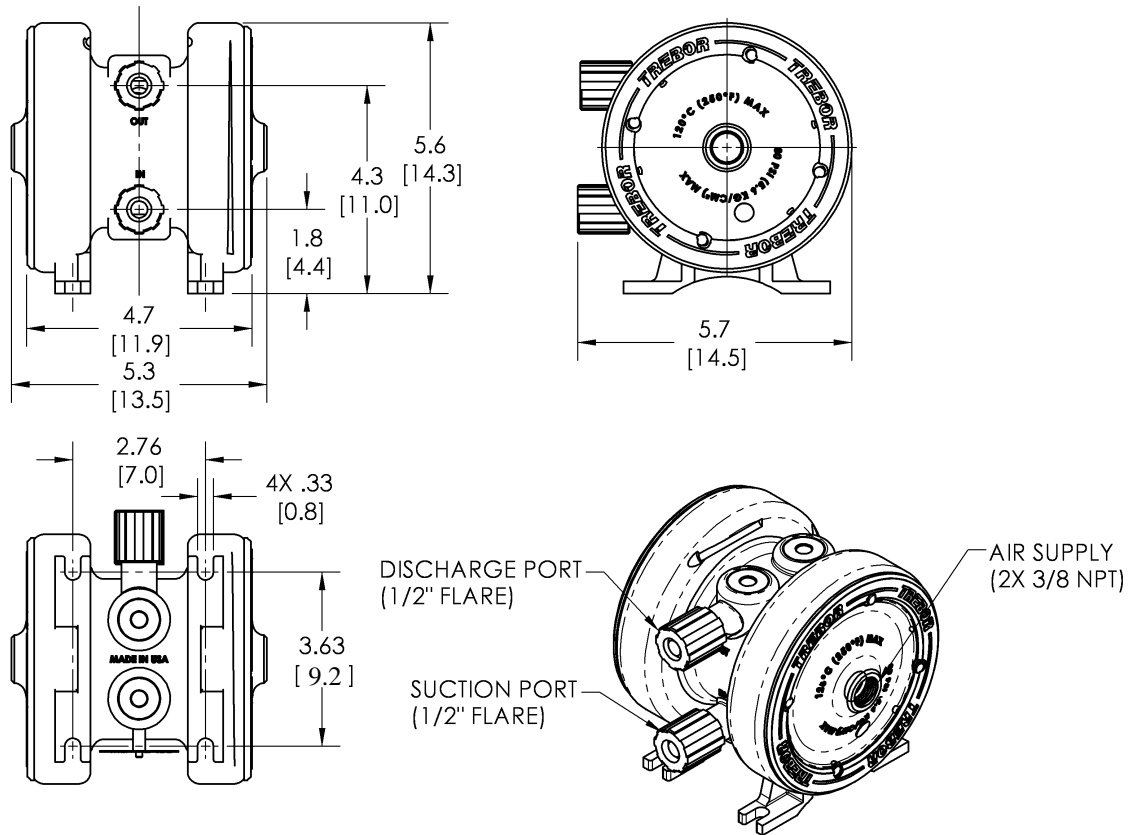

Figure 3-1: Dimensions (in / [cm])
- Attach the inlet and outlet fluid connections per the fitting manufacturer's specifications. Fluid connections are located on the pump side, inlet lower and outlet upper, see Figure 3-1.